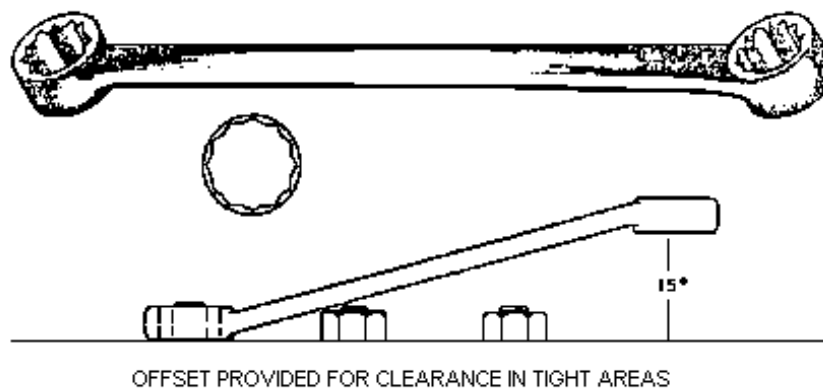

Figure 14, Box-End Wrench
- Box End Wrench.** Box-end wrenches are used for general purpose work. These wrenches are well suited for operation in close places because their heads are small. They can be used on nuts that cannot be grasped with other types of wrenches. Most box-end wrenches have 12 points and most nuts have six sides; therefore, as little as one-twelfth of a turn can be taken each time the wrench is shifted. The length of the wrench varies according to the size of the opening (See Figure 14). Box-end wrenches should be used if possible in place of adjustable or open end wrenches.